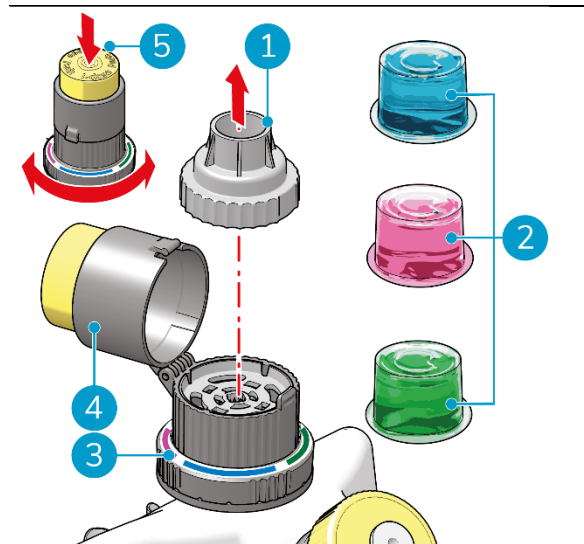

Figure 19
4. If applicable, remove the old i-dose pod and remove the cap (Figure 19, pos. 1).
5. Place the desired i-dose pod (Figure 19, pos. 2) in the i-dose injector.
6. Put back the cap (Figure 19, pos. 1).
7. Close the i-dose top (Figure 19, pos. 4).